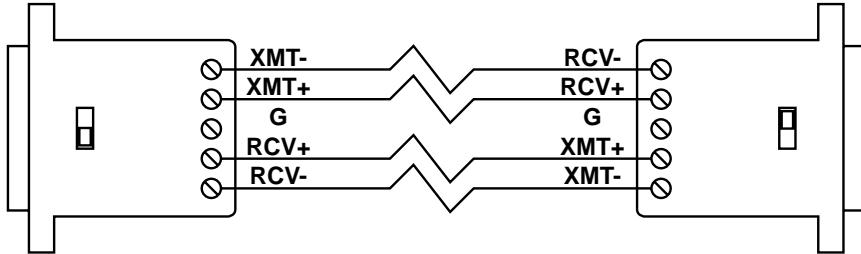
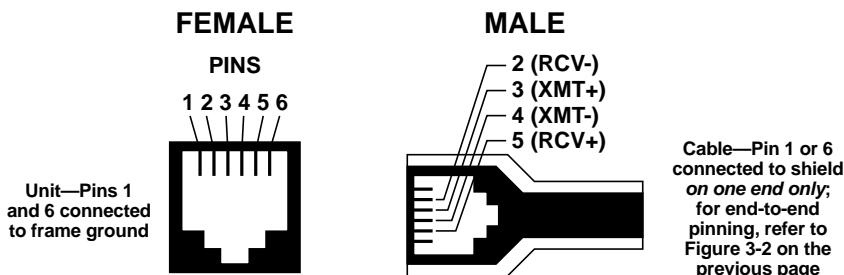

Figure 3-2. Wiring a pair of ME721 units.
Figure 3-3. Wiring a cable for ME821 units.
- 1A. *SHM-NPR (ME721 models) only:* Making sure that they are not connected to any other device or any power source, gently pry the units open using a small screwdriver or similar tool wedged into one of the indentations on either side of the units' cases. This will reveal a 5-screw terminal block mounted inside each unit. Run 4-wire twisted-pair cable (not included) from one block to the other as shown in Figure 3-2: one pair TX A to RX A and TX B to RX B, the other pair RX A to TX A and RX B to TX B, and the shield (if the cable is shielded) to the ground (middle) screw *on one end of the cable only*. When you are finished, lay the cable in the semicircle where it will emerge from the unit so that the strain-relief prongs can pierce the cable jacket, then close the unit back up.
- 1B. *SHM-NPR/RJ (ME821 models) only:* Get 4-wire twisted-pair cable and terminate it with RJ-11 or (especially if the cable is shielded) RJ-12 plugs, using the pin assignments shown in Figure 3-3 (for RJ-11 cable, substitute Pins 1, 2, 3, and 4 for Pins 2, 3, 4, and 5 respectively) and end-to-end wiring like that shown in Figure 3-2 on the previous page. Also, if the cable is shielded, attach the shield to Pin 1 or 6 *on one end of the cable only*. Plug the cable into the RJ-12 jacks on the units.